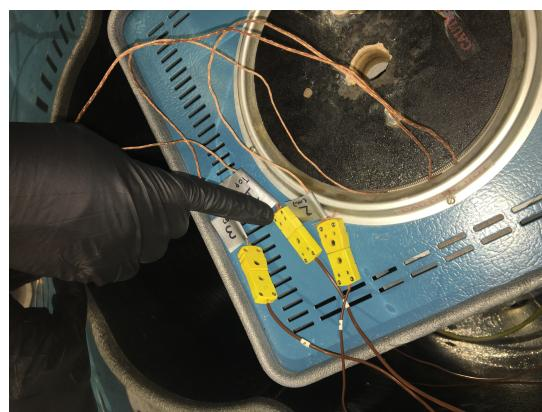

Figure 3: Thermocouple connections
5. Ensure the furnace thermocouples are connected to their corresponding connectors inside the vessel and ensure that the wires are tucked down between the side of the furnace and the wall of the vessel and are out of the way (see Figure 3)